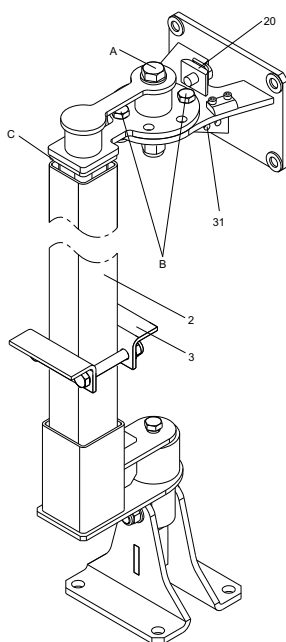

Fig. 7 Fixation
7. Position and align the column profile in the bottom fixation bracket. Shorten the column profile (2) to the correct length to match the position of the insulator (C) at the top fixation bracket. A gap of 0.2 to 0.4 in (5 to 10 mm) between the collar of the insulator and the column profile is optimal. See fig. 7.